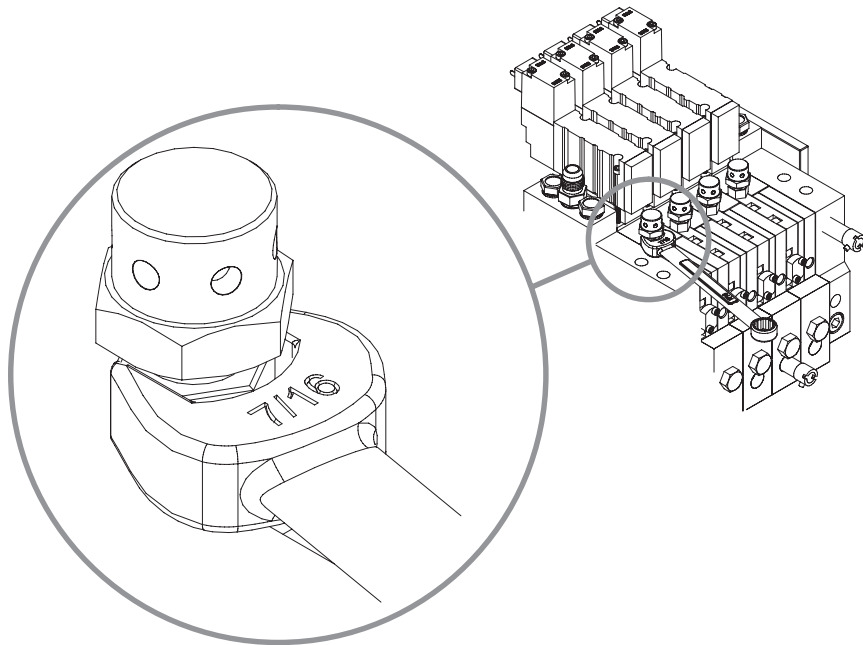

Figure 7-14 Removing a rupture disk
2. See Figure 7-14. Using a $\frac{7}{16}$ -in. wrench, loosen and remove the rupture disks to be replaced.